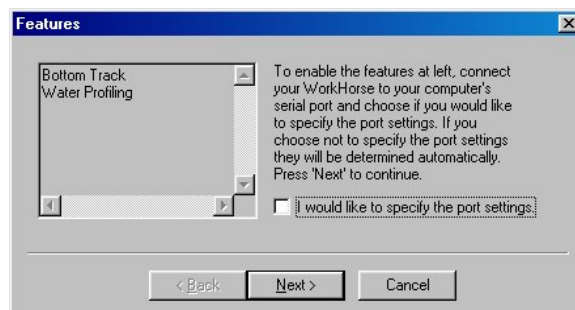

Figure 37. Installing Feature Upgrades
- d. In the **Open** box, type A:xxx.exe, where xxx is the DVL’s CPU serial number. The installation program will start (see Figure 37). The program is encoded with the DVL’s serial number and the requested feature upgrade.